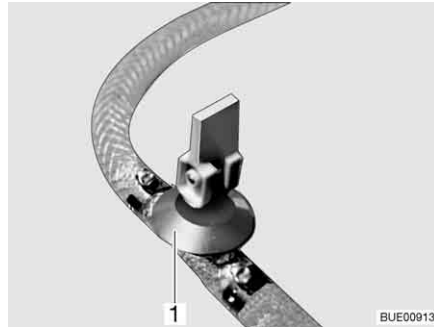

Fig. 183 Drain cock
- Close the drain cock(s). Position the rocking lever (Fig. 183,1) horizontally.
- Open drain cock(s) (Fig. 183). To do so, set the rocking lever (Fig. 183,1) in a vertical position. The boiler is drained to the outside.